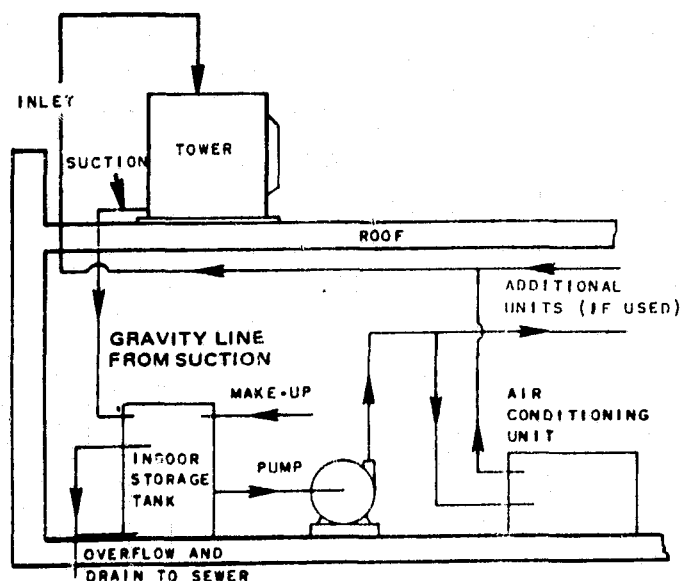

FIGURE 1. Flow Diagram for a Cooling Tower with Indoor Storage Tank. (Piping Is Arranged So That Tower Basin Will Drain When Pump Is Shut Off.)
- Where operating conditions require tower use during freezing weather, it is recommended that the towers be installed for "dry basin" operation. See Figure 1.